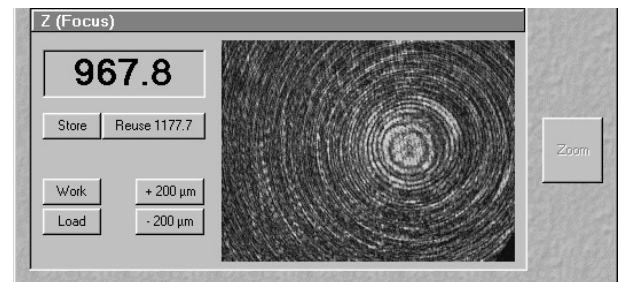

Fig. 4-29 Camera image far away from the lower cover slip surface
- The camera window shows interference fringes caused by the laser light (Fig. 4-29).